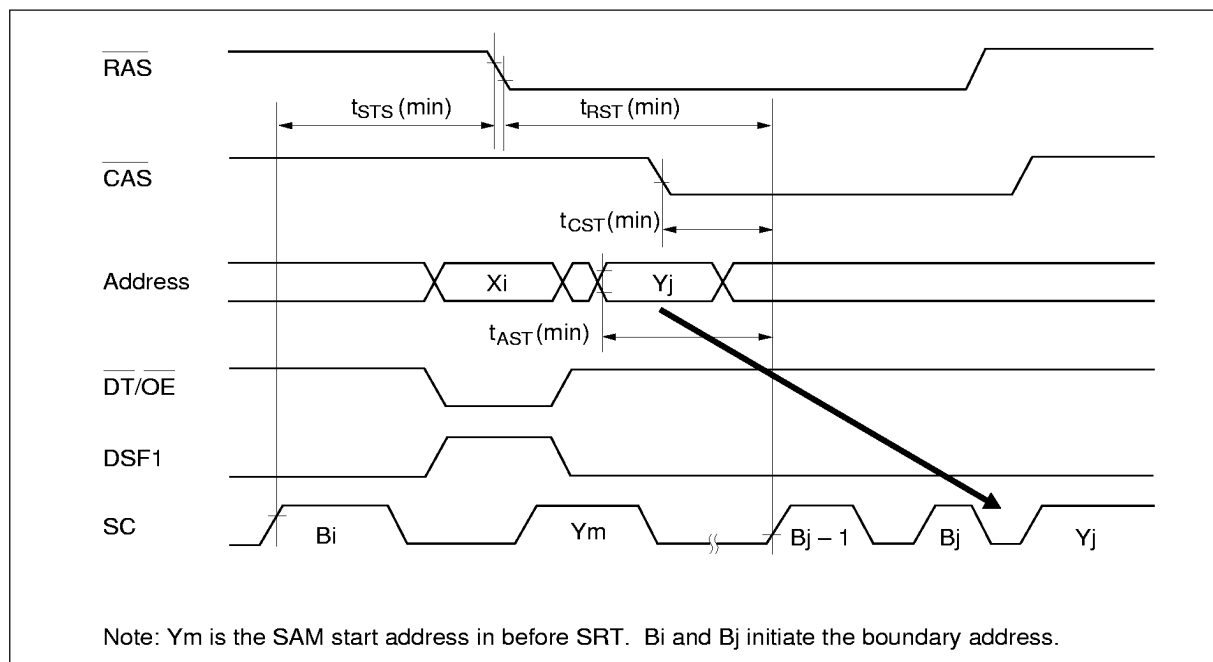

Figure 6 Split Transfer Limitation
Split read transfer cycle is set when  $\overline{\text{CAS}}$  is high,  $\overline{\text{DT/OE}}$  is low,  $\overline{\text{WE}}$  is high and DSF1 is high at the falling edge of  $\overline{\text{RAS}}$ . The cycle can be executed asynchronously with SC. However, HM538253B/ HM538254B must be satisfied  $t_{\text{STS}}$  (min) timing specified between SC rising (boundary address) and  $\overline{\text{RAS}}$  falling. In split transfer cycle, the HM538253B/HM538254B must satisfy  $t_{\text{RST}}$  (min),  $t_{\text{CST}}$  (min) and  $t_{\text{AST}}$  (min) timings specified between  $\overline{\text{RAS}}$  or  $\overline{\text{CAS}}$  falling and column address. (See figure 6.)
**Stopping Column Set Cycle (CBRS):** Start a stopping column set cycle by driving  $\overline{CAS}$  low,  $\overline{WE}$  low, and DSF1 high at the falling edge of  $\overline{RAS}$ . Stopping column data (boundaries) are latched from address inputs on the falling edge of  $\overline{RAS}$ . To determine the boundary, A2 to A7 can be used, and A0, A1, and A8 don't care. In the HM538253B/HM538254B, 7 types of boundary (B2 to B8) can be set including the default case. (See stopping column boundary table.) If A2 to A6 are set high and A7 is set low, the boundaries (B7) are selected. Figure 6 shows the example. Once a CBRs is executed, next split transfer cycle data become stopping column data. Stopping column is reset by CBBR.